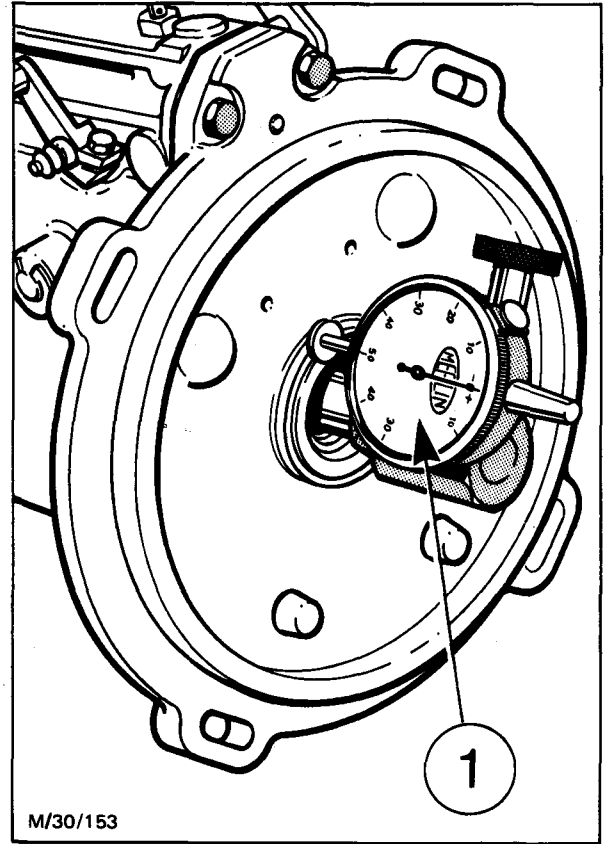

Fig. 32 - Measuring Camshaft End Float (York Pump Shown)
23. Fit an adaptor (TOOL NO. CT 9017-1) to the threaded end of the camshaft and attach a dial gauge (TOOL NO. CT 9017) to the adaptor (Fig. 32).